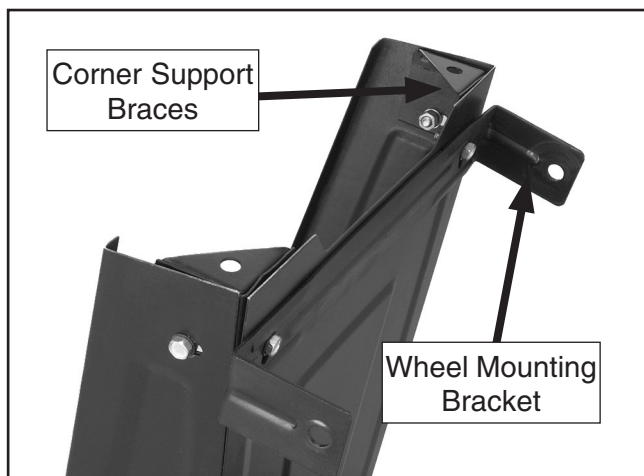

Figure 5. Corner braces and wheel bracket.
2. Using the M6-1 hex nuts, hex bolts and flat washers, install the corner support braces in the bottom corners of the leg assemblies (**Figure 5**).
3. On one of the leg assemblies, attach the wheel mounting bracket along with the corner support braces to the outside bottom edge as shown in **Figure 5**.